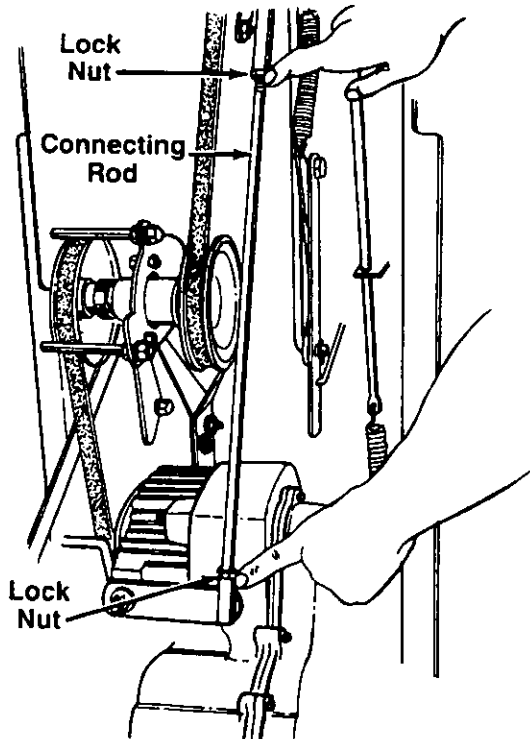

FIGURE 13.
2. Loosen both lock nuts on both ends of the connecting rod. See figure 13.